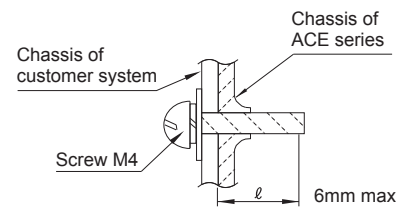

Fig. 4.5 Mounting screw
- Maximum length of mounting screws is 6mm (Refer to Fig. 4.5).